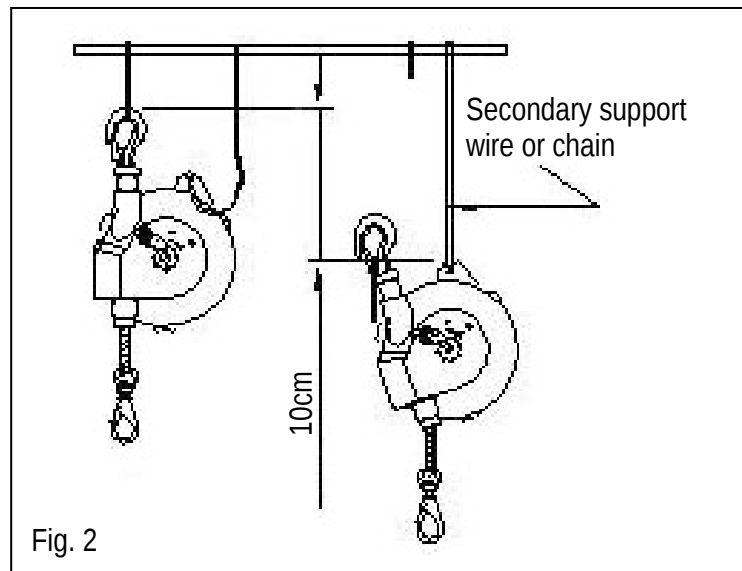

Fig. 2
- Leave some slack to the secondary support wire or chain to allow the spring balancer to rotate freely. The slack must be of suitable length: the spring balancer should stop within 10cm when falling in case of failure of the hanger or fitting (Fig. 2).